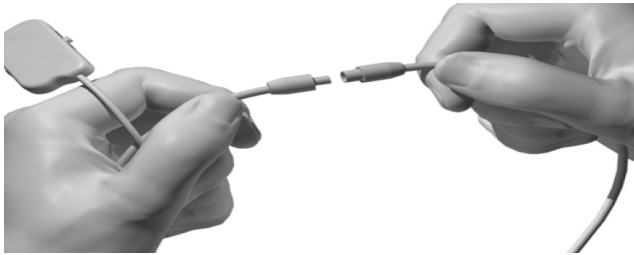

Figure 7: 1x8 OR Cables and Extension
1. Attach the OR Cable Extension to the OR Cable (Figure 7).